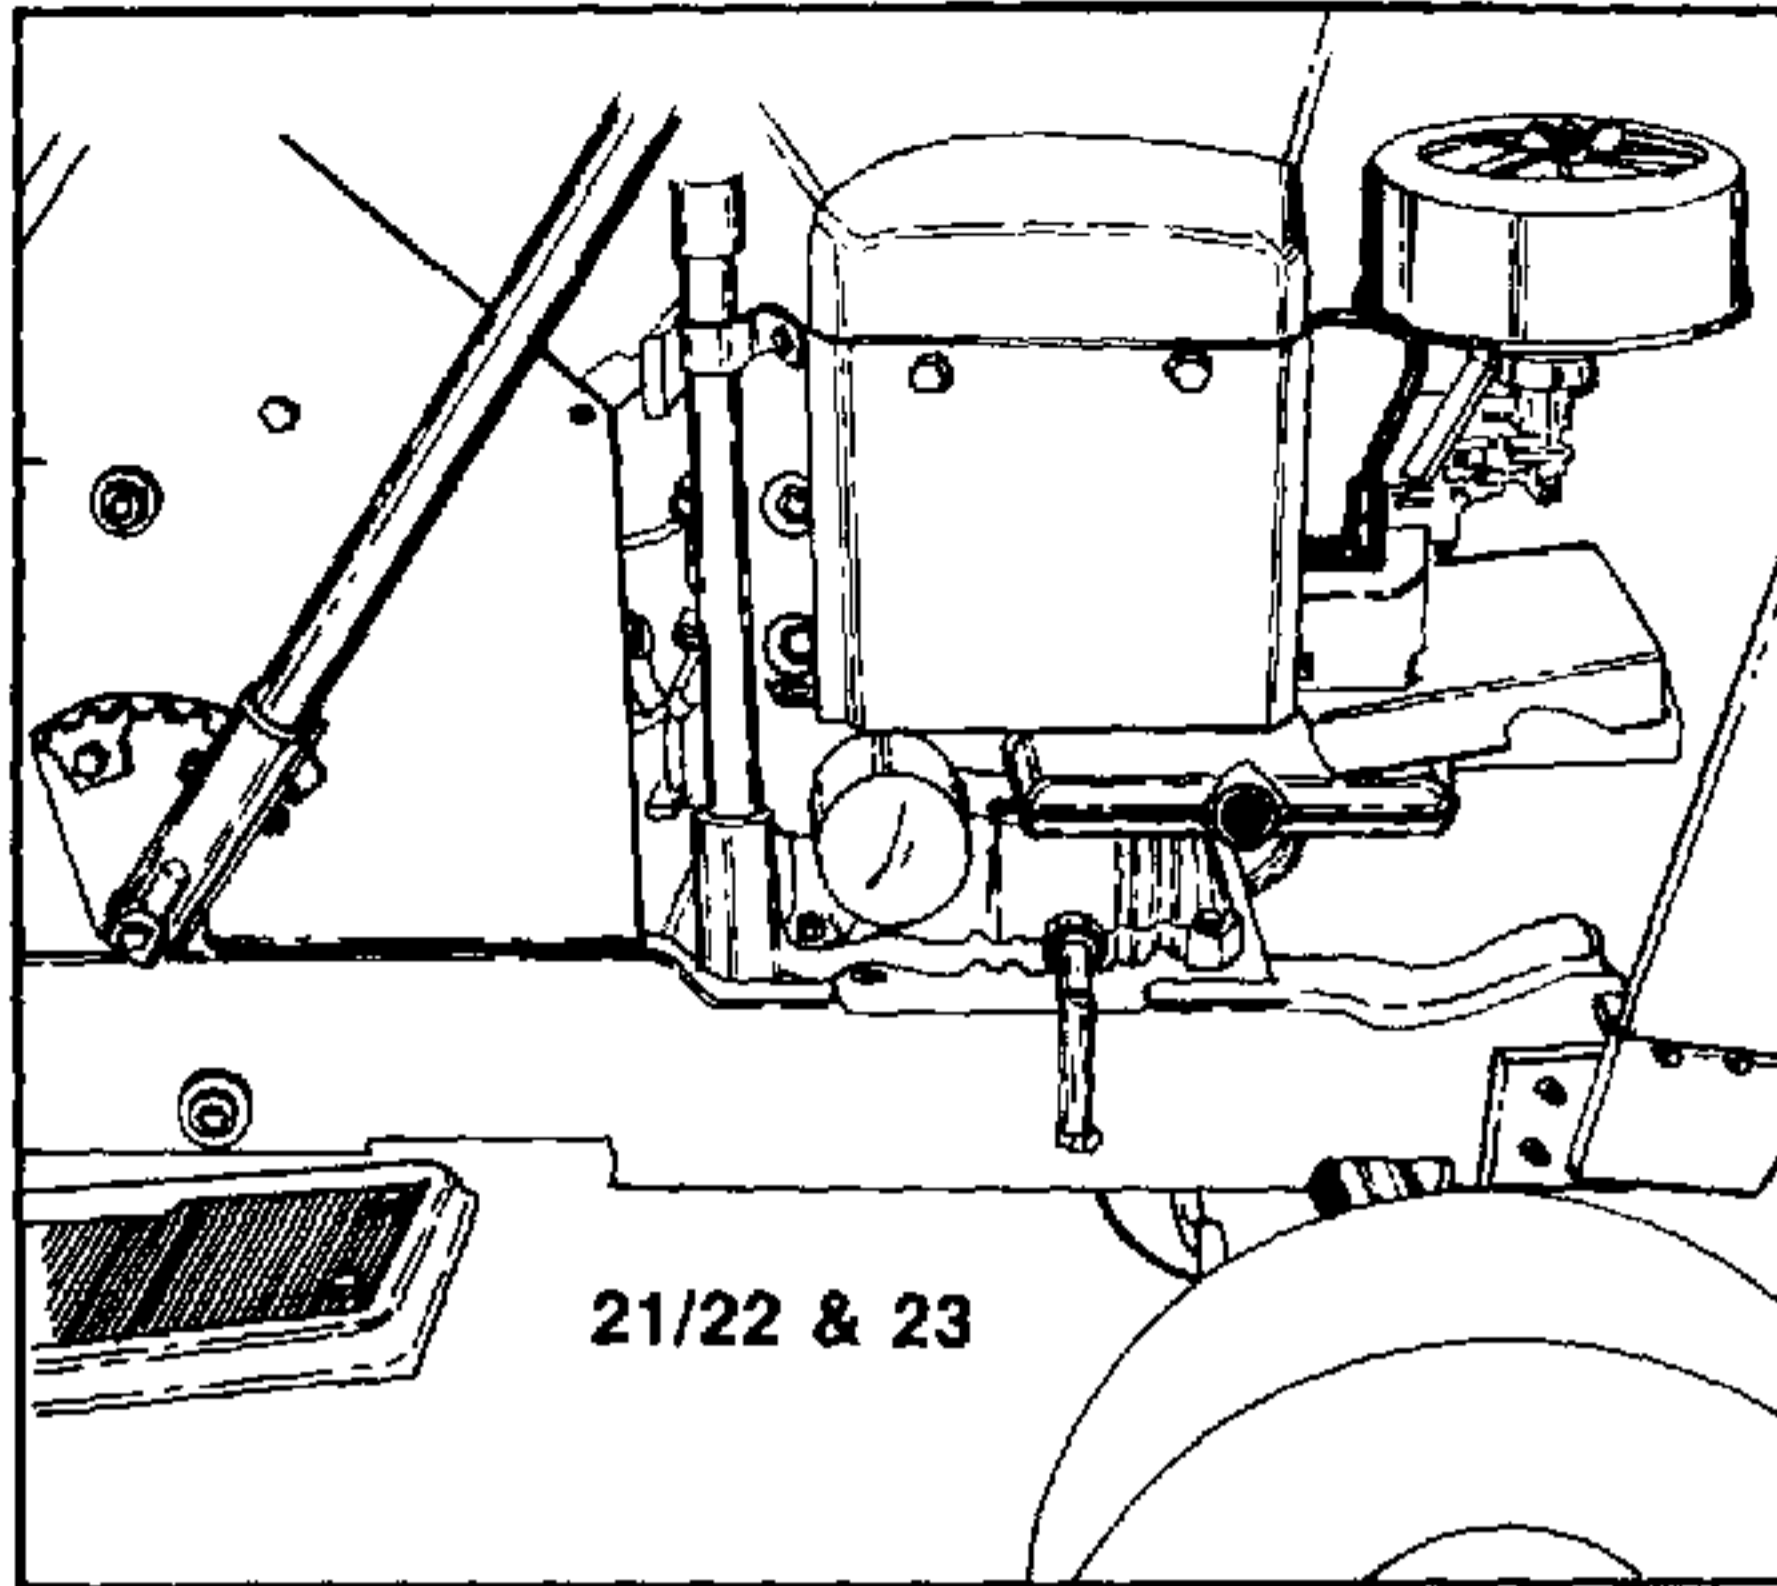

FIGURE 10.
16. Now the engine may be unbolted and removed. Remove four hex nuts, lock washers and hex bolts. See figure 10.